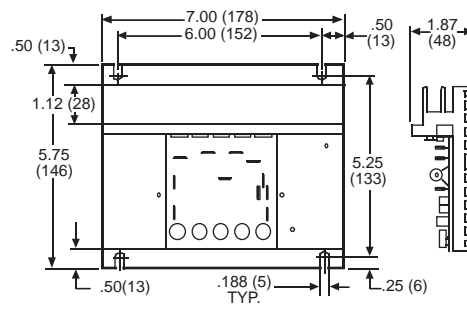

FIGURE 2. Model 2123 Dimensions
- Chassis Models** — The units are furnished as a very compact open chassis consisting of the regulator/power conversion circuit board mounted to a formed aluminum chassis. Some models may be furnished with supplemental heatsink (Options 1760, 1761) to improve heat dissipation and thereby extend the horsepower range. Chassis units are dimensionally interchangeable with many competitive units. See Figure 1 for dimensions of Models 2121 and 2122. See Figure 2 for dimensions of Model 2123.
- Full-Wave Power Conversion** — NEMA Code K converter configuration formed of discrete devices rated 600 PIV. Converter consists of two (2) SCR's, two diodes and a free wheeling diode which provide optimum form factor for best motor performance and long service. Enclosed models use the control enclosure as an integral heatsink with the power control devices electrically isolated from the enclosure.